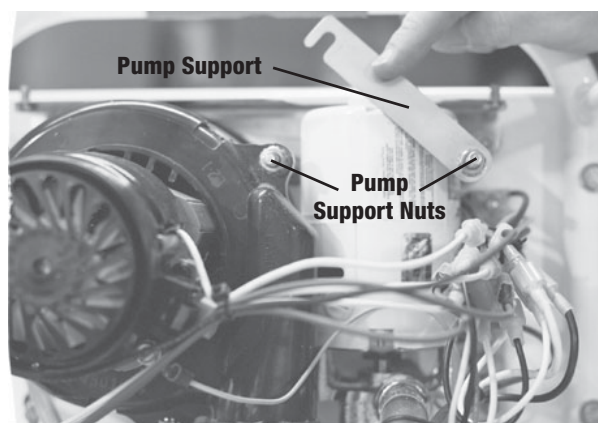

Figure 5
3. Loosen pump support nuts and push pump support up (fig. 5).